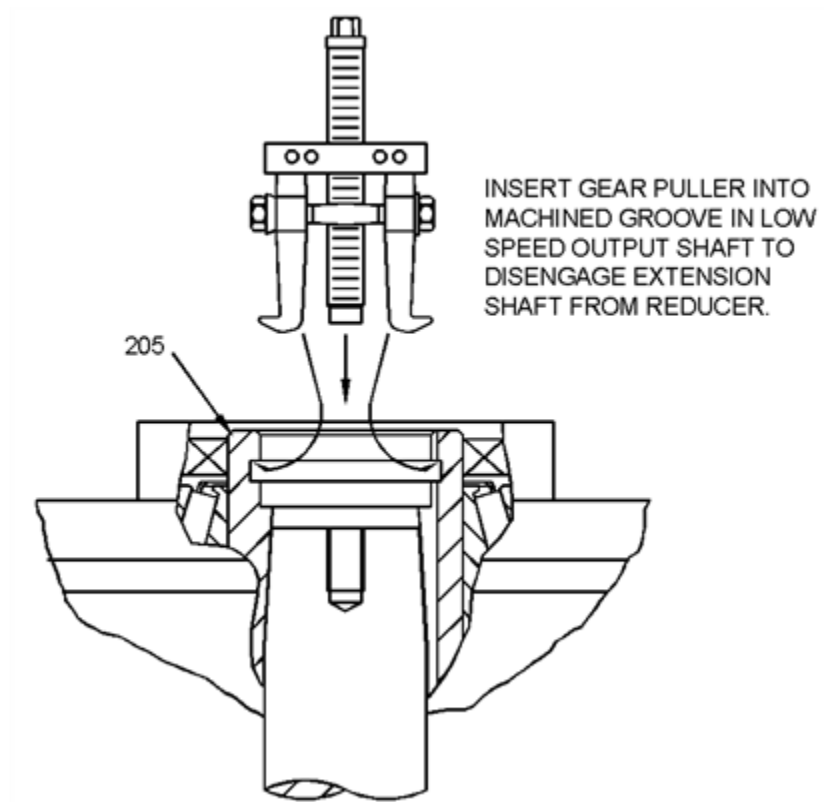

Figure 27: Extension Shaft Removal
4. A groove is provided in the top of low speed shaft [205] to allow the use of a gear puller (not provided) to assist in disengaging the taper connection between the extension shaft [400] and the low speed shaft. See Figure 27 below. After the taper connection is broken, remove gear drive mounting fasteners, and lift gear drive away from vessel.